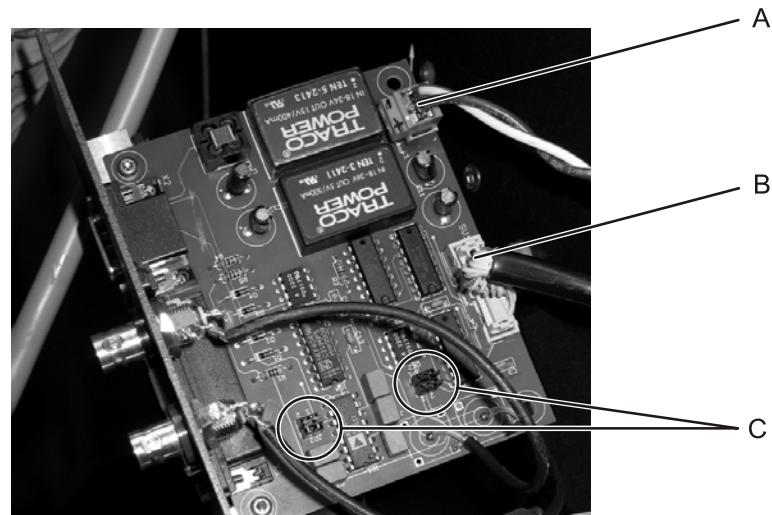

Figure 87: Interface board internal connections
4. Pull the interface board sufficiently out of the laser device to enable disconnection (see Figure 87).
5. Disconnect the 24 V power supply line (see Figure 87, A) and communications line (B) and, if necessary, de-solder the Sync Out and Trigger In lines from the PCB.
7. Compare the settings of the jumpers (C) on the new board with the settings on the old board and, where necessary, adjust.